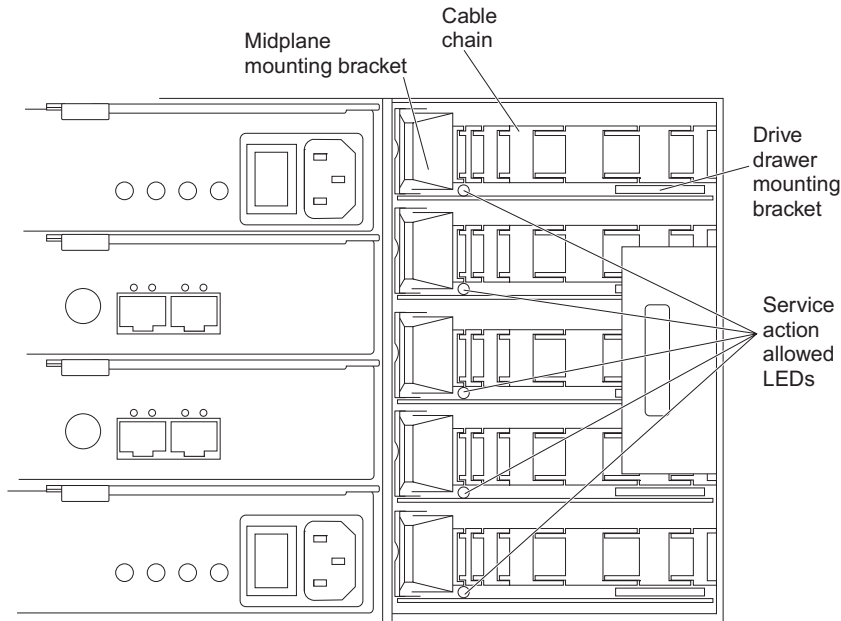

Figure 83. Rear view of the storage expansion enclosure with the right fan assembly removed
- a. At the rear of the drive tray, remove the right fan assembly. See “Replacing a fan assembly” on page 120 for the steps to remove a fan assembly. Figure 83 shows the area with the fan assembly removed.